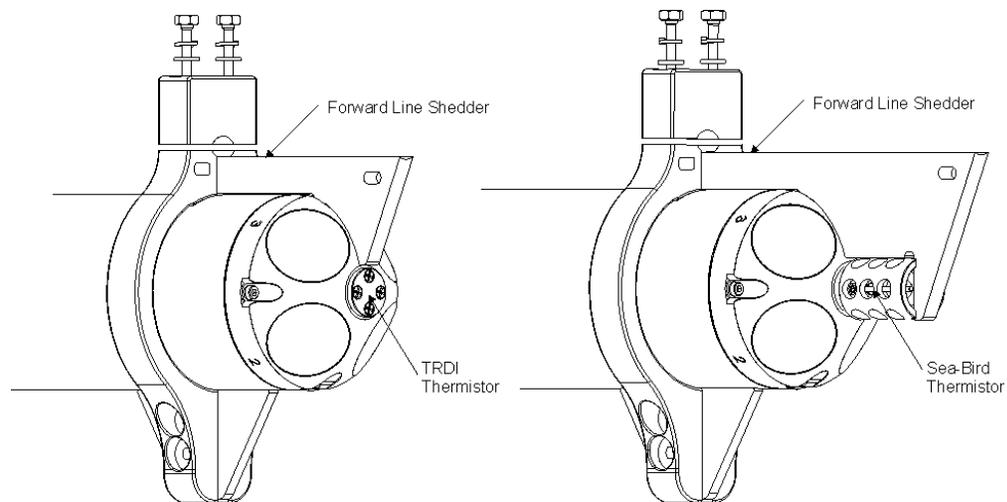

Figure 2. DVS Temperature Sensor Configurations
- The DVS can be configured either with the Sea-Bird thermistor or with our standard TRDI thermistor. Depending on what type of temperature sensor is used, the Forward Line Shedder will match the temperature sensor outline (see Figure 2). The thermistor is used to measure the water temperature for speed-of-sound calculations and the water temperature data is available in the output data.